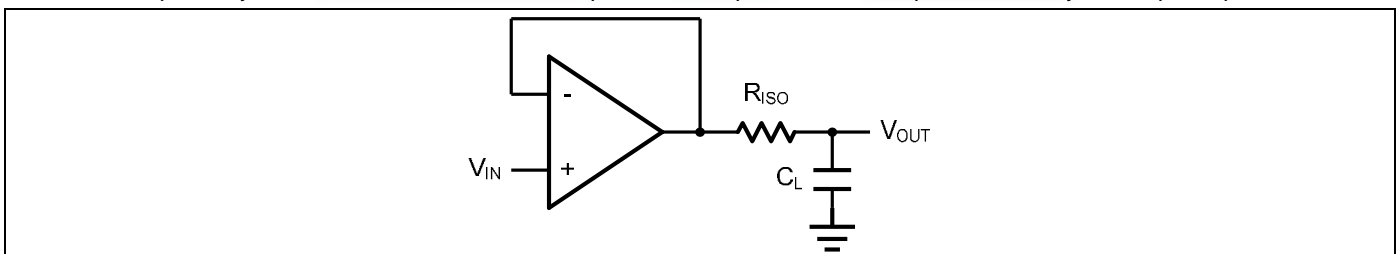
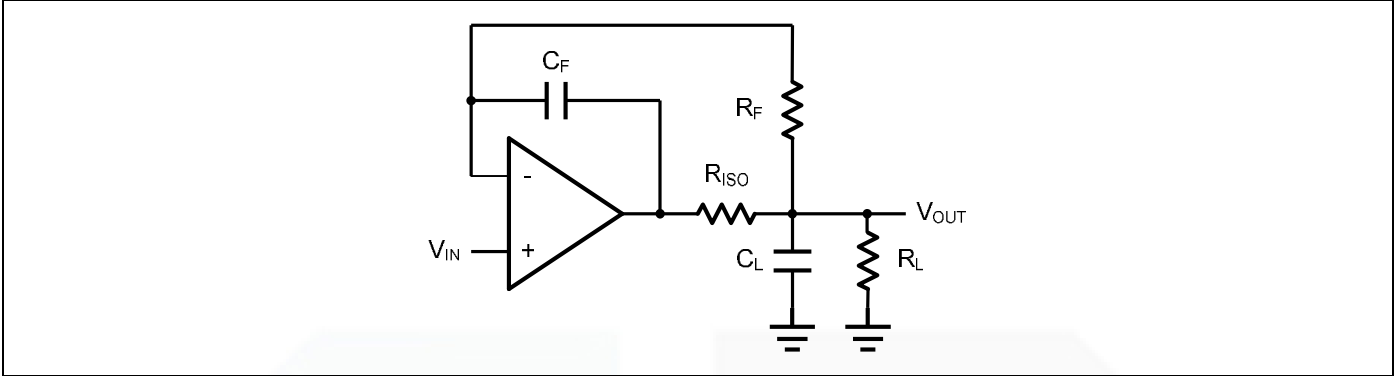

Figure 2. Indirectly Driving a Capacitive Load Using Isolation Resistor
Figure 3. Indirectly Driving a Capacitive Load with DC Accuracy
The GS8600 family is optimized for bandwidth and speed, not for driving capacitive loads. Output capacitance will create a pole in the amplifier's feedback path, leading to excessive peaking and potential oscillation. If dealing with load capacitance is a requirement of the application, the two strategies to consider are (1) using a small resistor in series with the amplifier's output and the load capacitance and (2) reducing the bandwidth of the amplifier's feedback loop by increasing the overall noise gain. Figure 2. shows a unity gain follower using the series resistor strategy. The resistor isolates the output from the capacitance and, more importantly, creates a zero in the feedback path that compensates for the pole created by the output capacitance.
The circuit in Figure 3 is an improvement to the one in Figure 2.  $R_{\text{F}}$  provides the DC accuracy by feed-forward the  $V_{\text{IN}}$  to  $R_{\text{L}}$ .  $C_{\text{F}}$